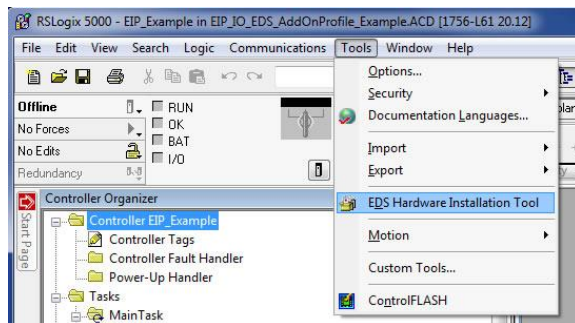

Figure 16: EDS Hardware Installation Tool Menu
- 1) Register the interface card's EDS file. In the menu bar, navigate to Tools...EDS Hardware Installation Tool. Refer to Figure 16.